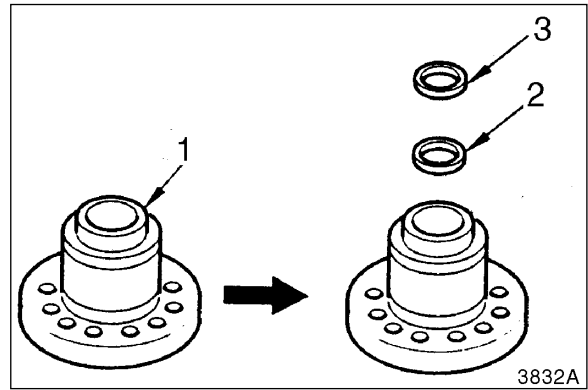

Figure 13
7. Use caution to prevent damage to any parts of U-packing (1, Figure 13). Remove U-packing (1). Remove O-ring (2), and ring (3).